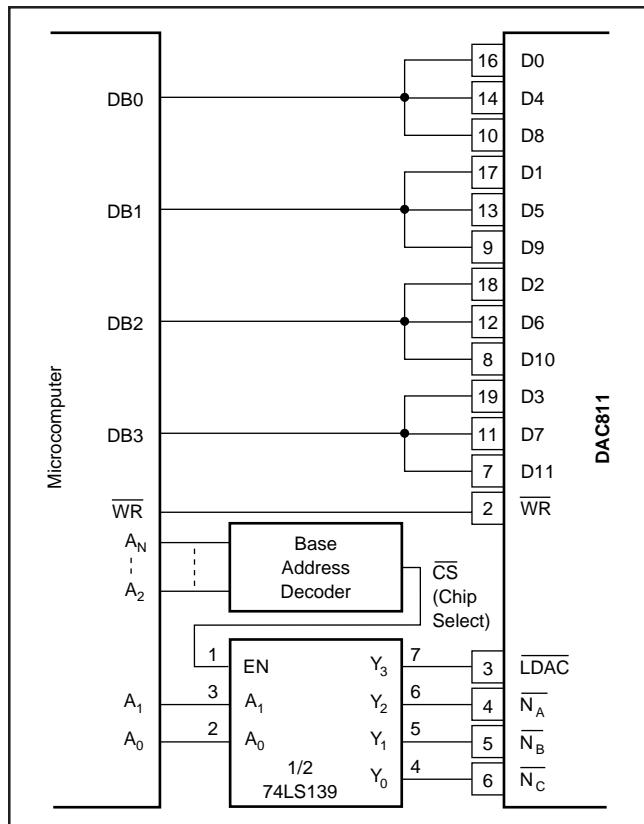

FIGURE 8. Addressing and Control for 4-Bit Microcomputer Interface.
An interface to a 4-bit microcomputer is shown in Figure 8. Each DAC811 occupies four address locations. A 74LS139 provides the two-to-four decoder and selects it with the base address. Memory Write (WR) of the microcomputer is connected directly to the WR pin of the DAC811. An 8205 decoder is an alternative to the 74LS139.